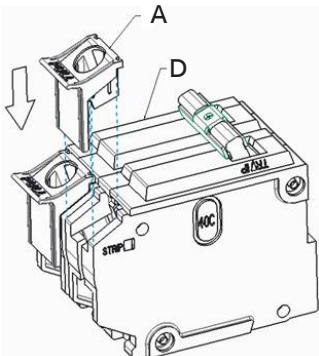

Figure 1. Insert Service Barrier onto Main Circuit Breaker
2. Insert the Service Barriers (A) onto line side of circuit breaker (D) as shown in **Figure 1**. Two Service Barriers included with the kit, need to assemble to both the poles.